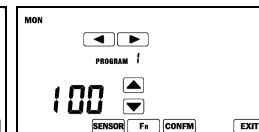

Fig4.
7. Press **Fn** to change the program period, press up/down buttons to adjust the time period from 10-500 minute (see Fig4).